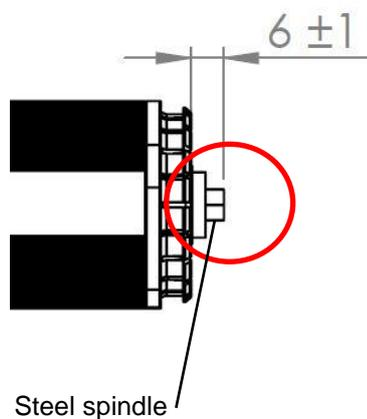

Figure 4: SLIMdrive-660S setup description for steel spindle
1. Tighten the steel spindle clockwise until it reaches the position like it's shown in Figure 4